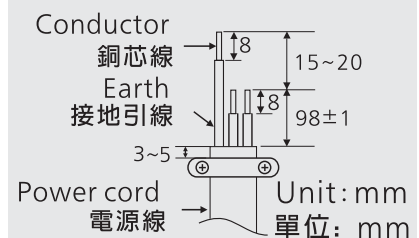

Figure 1
For the stripping length, please according to the wiring sketch (refer to figure 1). If the stripping length is too long, it may cause short circuit.
- ③ Loosen the screws of the cord clip.
- ④ Loosen the screws of the pillar terminal, insert the power cord (not supplied) connected to the indoor fixed wiring into the pillar terminal, tighten the screw, and guide the wire according to the right figure.
- ⑤ Fix the power cord with the cord clip. (The cord clip must pin the insulation sheath of power cord.)
- As shown in Figure 1 of P9